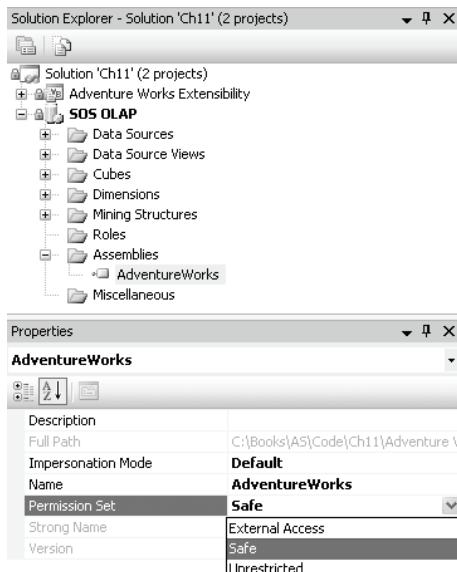

Figure 11.6 A library assembly can be deployed as part of deploying the Analysis Services project from VS.NET.
4. Click the Add button to add the AdventureWorks.dll to the selected assemblies list and the OK button to create a reference to it. At this point, your Assemblies folder should list the library assembly, as shown in Figure 11.6.